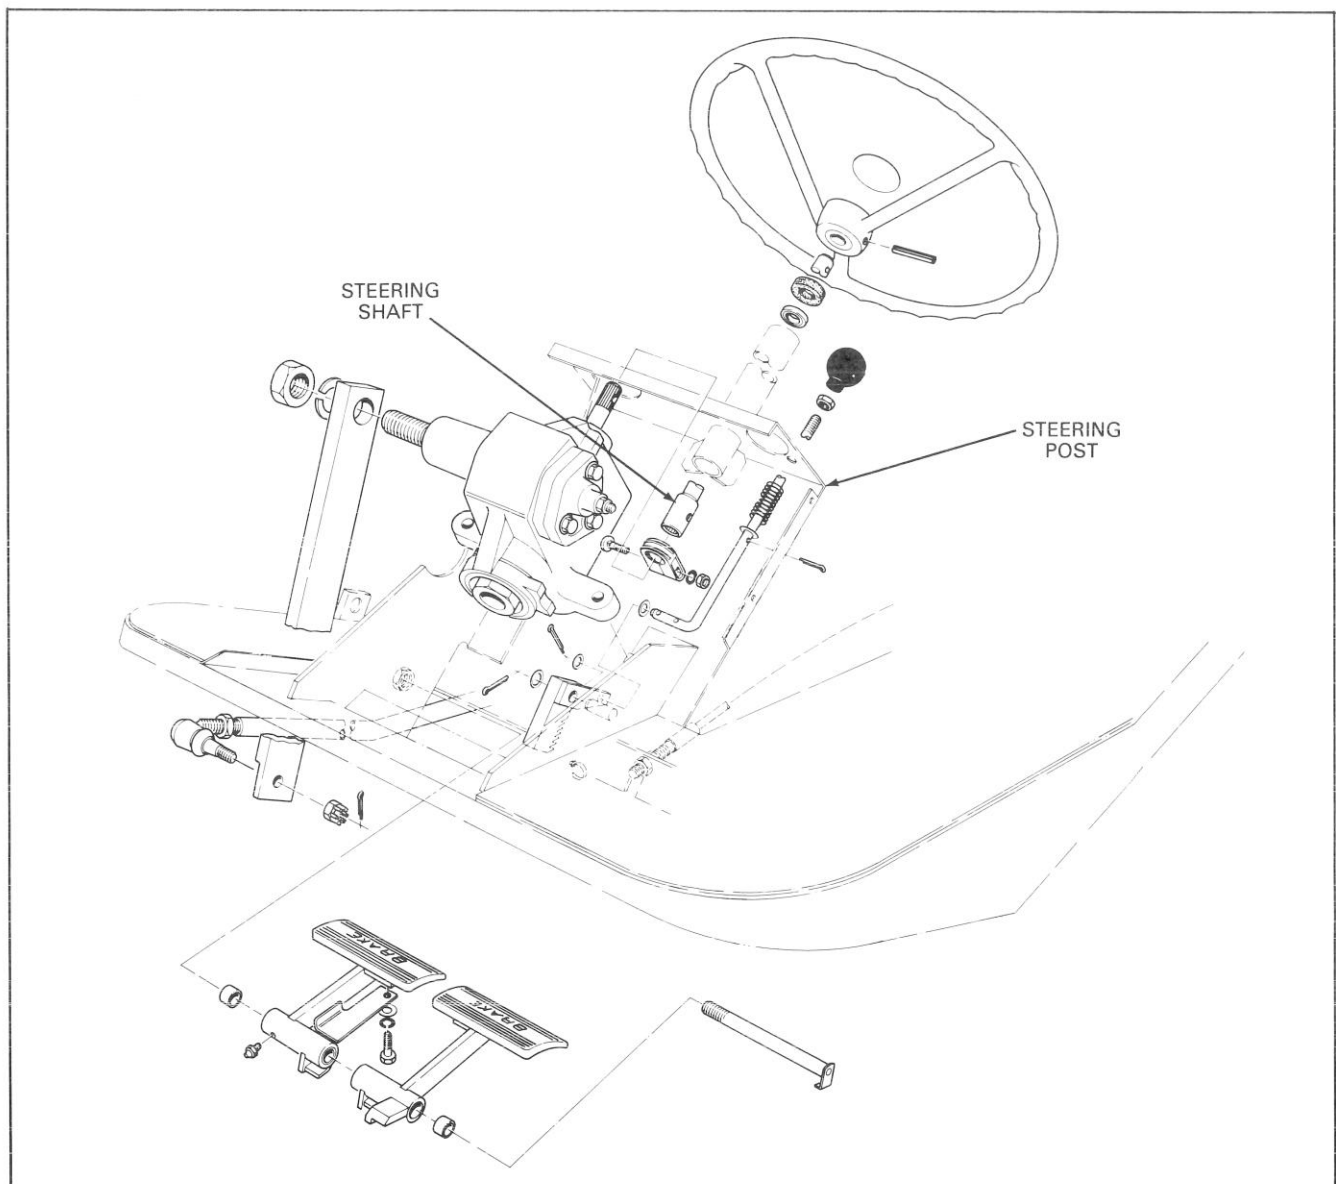

Figure 4
10. Install new brake pedals, steering post welded assembly steering gear and steering shaft included in kit (Fig. 4).
13. Position the pitman arm on the output shaft of the "centered" steering gear. The machined lower end of the pitman arm must face the tie rod end. Install lockwasher and nut and torque to 185 ft-lb. (Fig. 4).